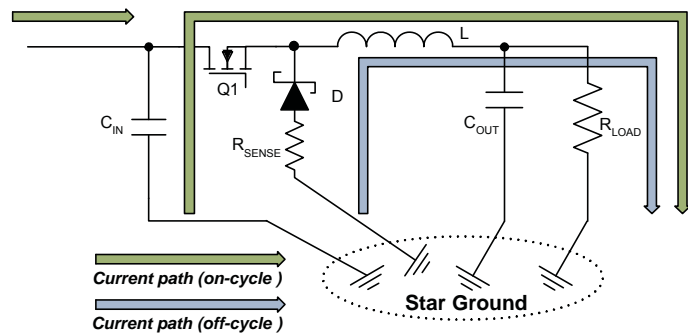

Figure 2. Star Ground Connection
**PCB Layout** The board layout has a large impact on the performance of the device. It is important to isolate high current ground returns, to minimize ground bounce that could produce reference errors in the device. The method used to isolate power ground from noise sensitive circuitry is to use a star ground. This approach makes sure the high current components such as the input capacitor, output capacitor, and diode have very low impedance paths to each other. Figure 2 illustrates the technique.